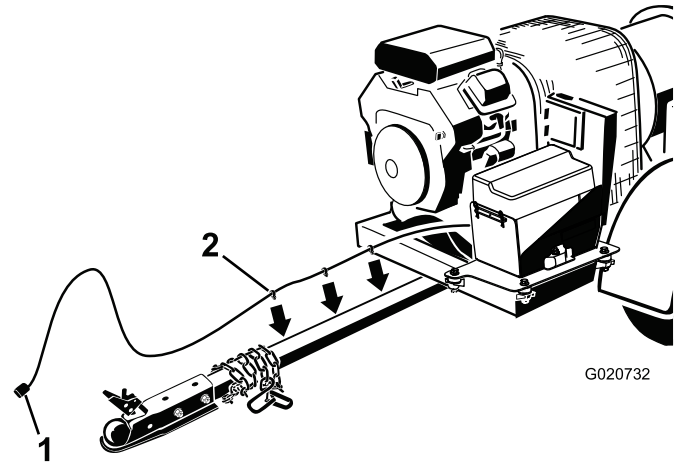

Figure 7
4. Plug the harness clips into the holes in the side of the hitch tube to secure it (Figure 7).
3. Route the wire harness along the right side of the hitch tube (Figure 7).